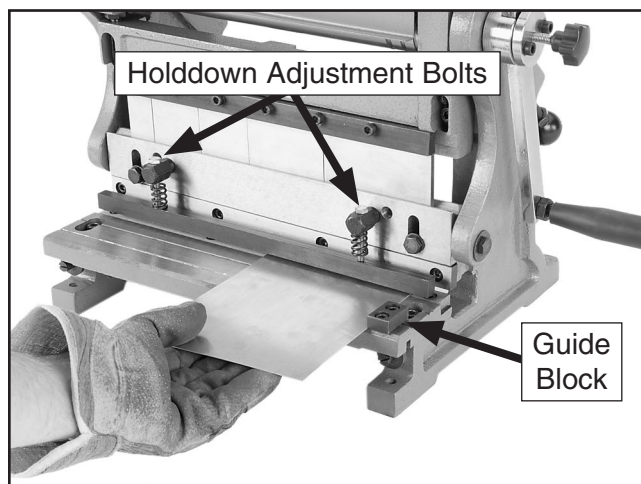

Figure 40. Positioning the workpiece for a cut.
3. Position the workpiece up against the guide block on the right side of the table, then align the cut mark with the upper shear blade, as shown in **Figure 40**.